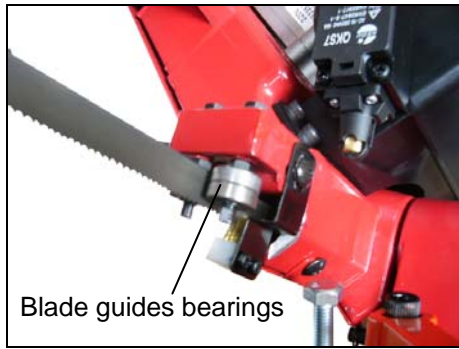

Fig. 21
- Remove blade from both wheels and blade guides bearings in Fig.21.